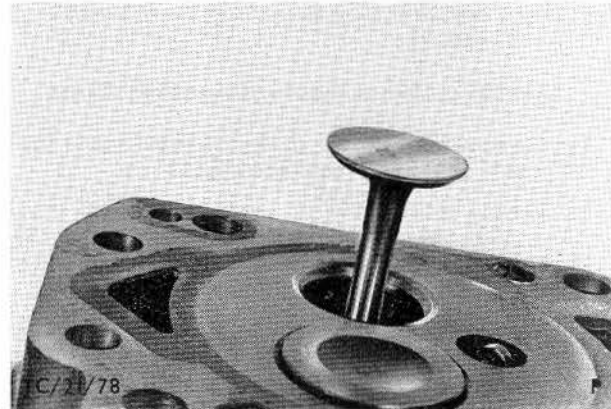
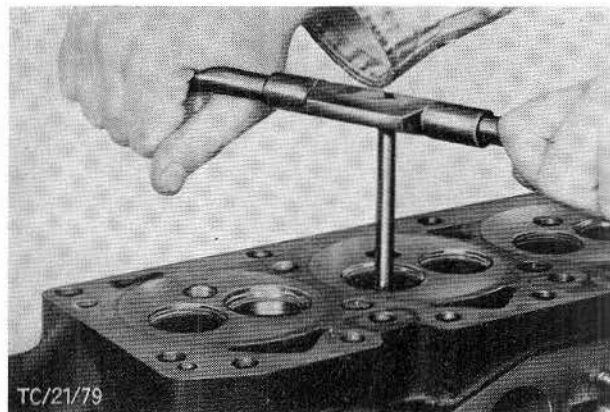

Fig. 85. Determine valve guide play by pressing sideways.
Fig. 86. Ream valve guide.
1. Insert existing valve in valve guide and determine play by pressing sideways, Fig. 85. After they have been used for a considerable time valve guides wear into an oval shape. When rectifying, reaming should always be carried out from the **valve seat end**. The size of bore chosen depends on the amount of wear of the guide bore and the valve oversizes available (see Parts Catalogue). When reaming, Fig. 86, the **smallest** reamer should always be used initially, since with the larger ones the depth of cut is too great.